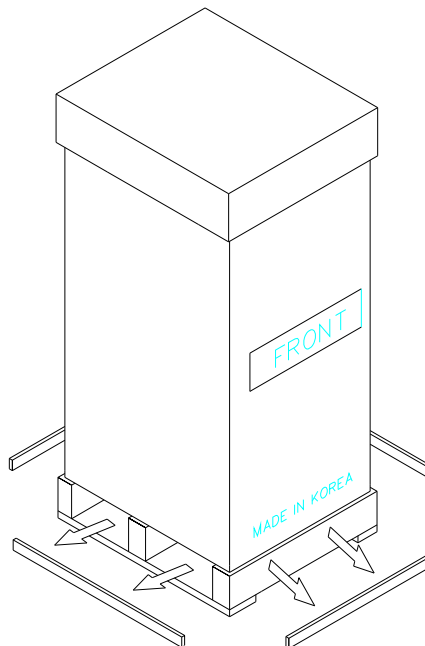

Fig. 4.4
- 3) Use an appropriate tool to remove the nails from the palette. (refer to Fig. 4.4)